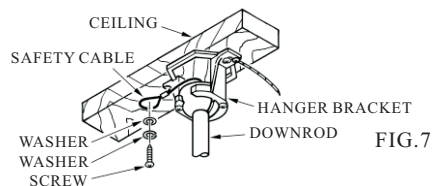

FIG. 7
3. Install the safety cable into the building structure.(see Fig.7)